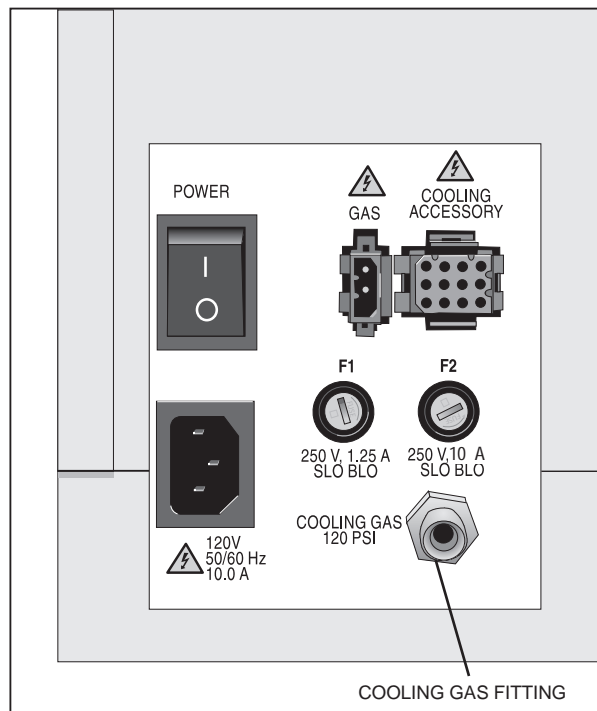

Figure 2.7
1. Locate the COOLING GAS fitting, a 6.4 mm (¼-inch) compression fitting on the left side of the 2010 instrument back, marked with a 120 psi maximum warning label (see Figure 2.7).